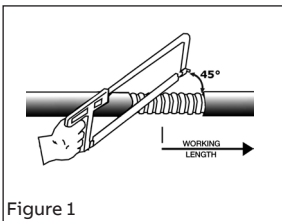

Figure 1
- Determine the working length (the length of conductors required inside the enclosure or device). Remove a portion of the outer jacket to expose the armor, cut armor using a hacksaw (Figure 1). **CAUTION: Do not nick or cut the conductor insulation.**